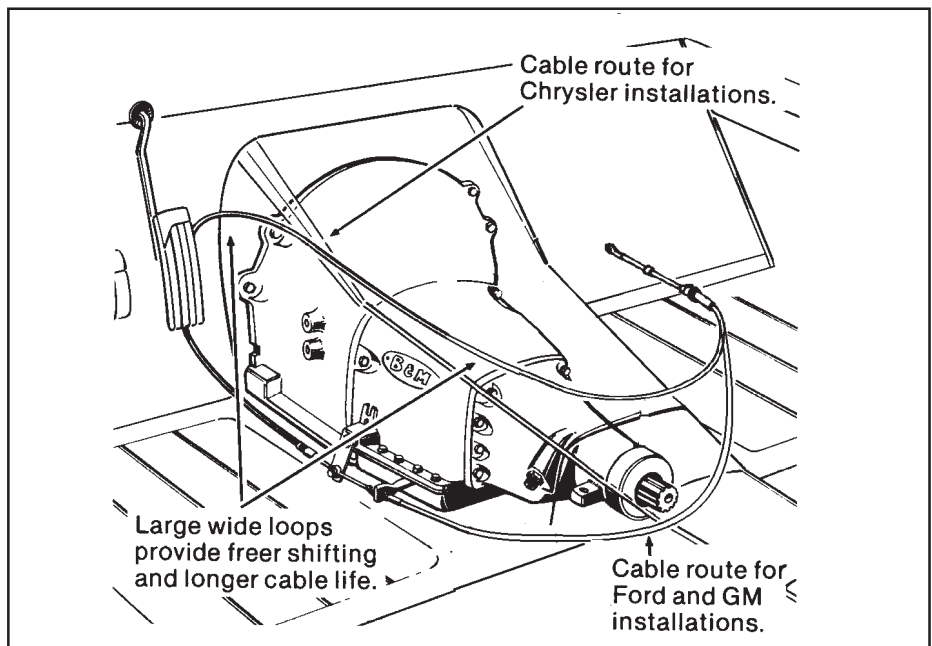

Figure 3
STEP 9. Install the shifter mechanism into the vehicle. Slide the shifter cable through the carpet and the hole in floor. Bolt the shifter down using four 1/4" x 1-1/2" hex bolts and nuts. If required use 1/4" washers as shims between the shifter mechanism and the floor to level the shifter. **ROUTE THE CABLE AS SHOWN IN FIGURE 3, AVOID SHARP BEND OR KINKS WHICH WILL DAMAGE THE CABLE.** Use cable clamps or tie wraps to secure the cable housing to the chassis to avoid contact with hot engine or exhaust system.
STEP 13. Route the shifter cable according to **Figure 3**. Avoid kinks and sharp bends and route the cable away from hot engine or exhaust parts.
STEP 19. Route the shifter cable according to Figure 3. Avoid kinks and sharp bends and route the cable away from hot engine or exhaust parts.
STEP 24. Route the shifter cable according to **Figure 3**. Avoid kinks and sharp bends and route the cable away from hot engine or exhaust parts.